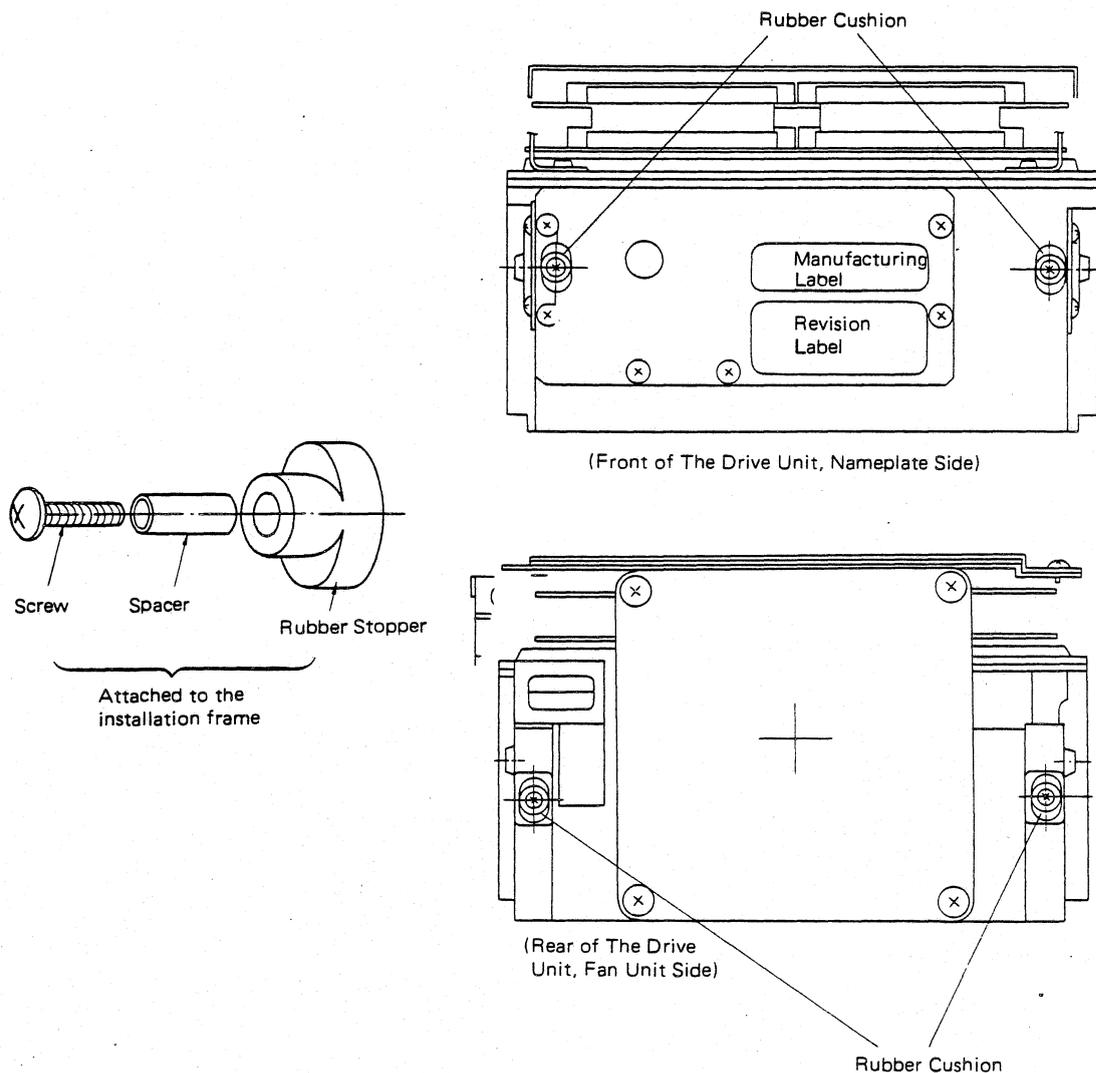

Figure 3-5-7 Rubber Cushion Mounting
- ① Mount the rubber stoppers, attached to the Mounting Tray, using taps in the front and back of the drive unit as shown in Figure 3-5-7.